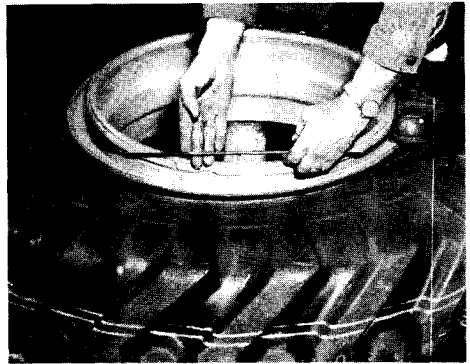

Figure 101
6. Depress the flange and remove the "O" Ring from the lower groove, Figure 101.